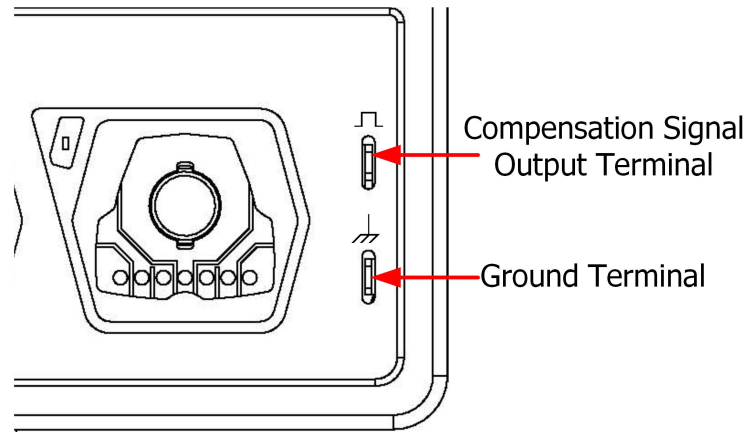

Figure 4.7 To Use the Compensation Signal
- 2 Connect the ground alligator clip of the probe to the "Ground Terminal" as shown in Figure 4.7 below.
- 3 Use the probe to connect the input terminal of CH1 of the oscilloscope and the "Compensation Signal Output Terminal" of the probe, as shown in Figure 4.7.